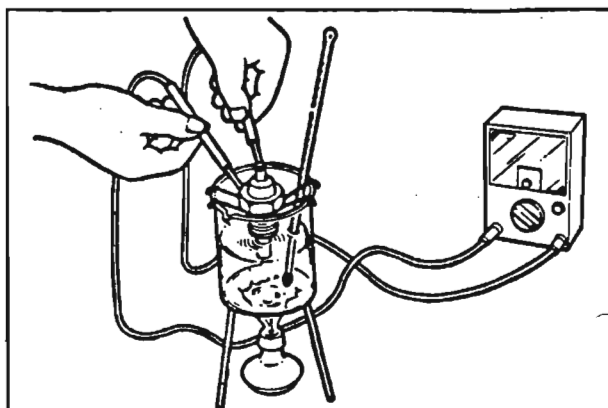

FIG. 9 — Testing fan switch
2. Connect a circuit tester to the switch (Fig. 9).